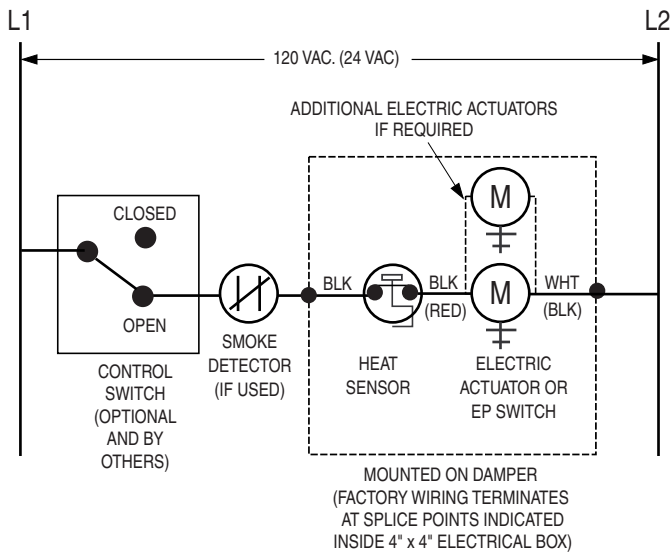

Figure 1. ERL Wiring
- One of the above connections on the top and bottom joints with flat drive slip connections on the side joints may be used for dampers up to 20" (508) in height.
- Duct diameters 22" (559) and smaller must use three #10 sheet metal screws equally spaced around the circumference.
4. **Damper/sleeve attachment:** Damper shall be secured to sleeve with 1/4" (6) long welds, 3/16" (4.76) steel rivets, 1/4" (6.35) dia. bolts and nuts, #8 sheet metal screws, or 3/16" (4.76) dia. buttonlocks on both sides at 6" (152) on center and a maximum of 4" (102) from the corners of the damper on all four sides. For field assembled sleeves, the inner dimensions of the sleeve shall be equal to the outer dimensions of the damper. All joints between the damper and the sleeve shall be sealed with Dow-Corning 732 or G.E. RTV108 silicone sealant on one side only.
5. **Inner Retaining angles** shall be a minimum of 1 1/2" x 1 1/2" x 16 gauge (38 x 38 x 1.61). Secure the retaining angles to the sleeve with 1/2" (12.7) long welds, 1/4" (6.35) dia. bolts and nuts, 3/16" (4.76) dia. steel rivets or #8 sheet metal screws 8" (203) on center and 2" (51) maximum from corner of sleeve on all four sides. The retaining angles must lap the structural opening by 1" (25.4) minimum. Where the sleeve terminates at the wall, 2" (51) wide mounting angle tabs with a 3/4" (19) flange are fastened to the sleeve. Mounting tabs may be installed on top and bottom, or sides, or a combination of both. A steel grille frame with a minimum 1" (25) flange is then fastened to the mounting angle tabs with sheet metal screws.
- ERL (Electric Resettable Link):** Dampers are supplied with an electric thermostat-type temperature responsive device as standard. Refer to Figure 1 for wiring of the ERL. If dampers are ordered with a pneumatic actuator and ERL, an EP switch is required with an appropriate electric power circuit to allow the ERL to control the pneumatic actuator.